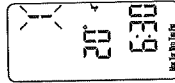

Fig. 13
- Press **PROG** button until Event 1 flashes, then press the **DAY** button until display shows weekdays (**Fig. 13**).